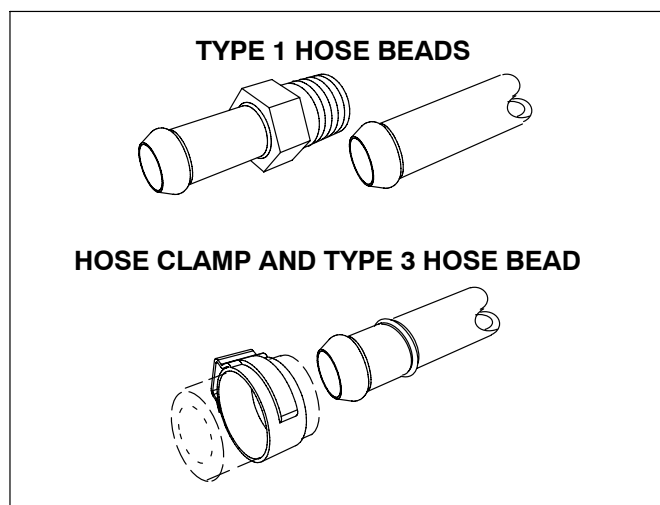

FIGURE 4-4. DOUBLE-FLARE SAE J1231 HOSE BEADS AND STEPLESS EAR CLAMP
- **Hose Beads:** Use suitable tooling to form tubing ends into SAE J1231 Type 1 or Type 3 double-flare hose beads (Figure 4-4). This is **required** for all supply tubing and fittings.
- **Hose Clamps:** Use stainless steel stepless ear clamps (Figure 4-4). Onan P/N 0503-1951-13, Oetiker P/N 16700013 or equivalent are **required**.
- **Hose Beads:** Use suitable tooling to form tubing ends into SAE J1231 Type 1 or Type 3 double-flare hose beads (Figure 4-4). This is *recommended* for all return tubing and fittings.
- **Hose Clamps:** Use stainless steel stepless ear clamps (Figure 4-4). Onan P/N 0503-1951-11, Oetiker P/N 16700011 or equivalent are *recommended*.
double-flare hose beads (Figure 4-4). This is recommended for all tubing and fittings.
- **Hose Clamps:** Use stainless steel stepless ear clamps (Figure 4-4). Onan P/N 0503-1951-11, Oetiker P/N 16700011 or equivalent are recommended.